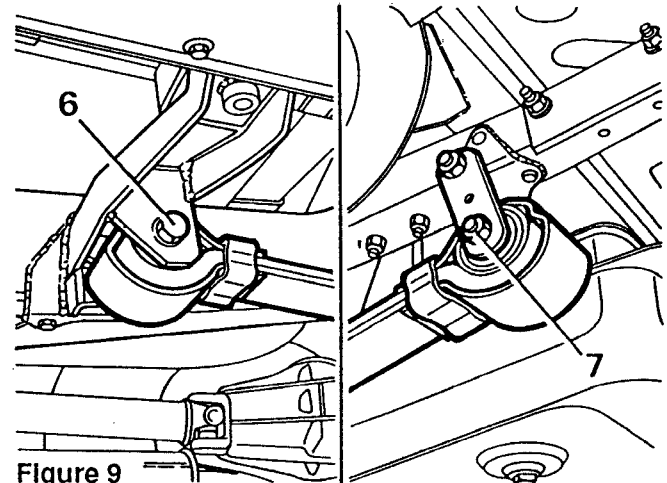

Figure 9
6. Remove nut securing front spring fixing and withdraw bolt. Lower the spring, see figure 9.
NOTE: During the replacement procedure do not fully tighten the shackle pin nuts (fig 9 ref. 6 & 7) until the road wheels have been replaced and the springs are loaded by the vehicle weight.